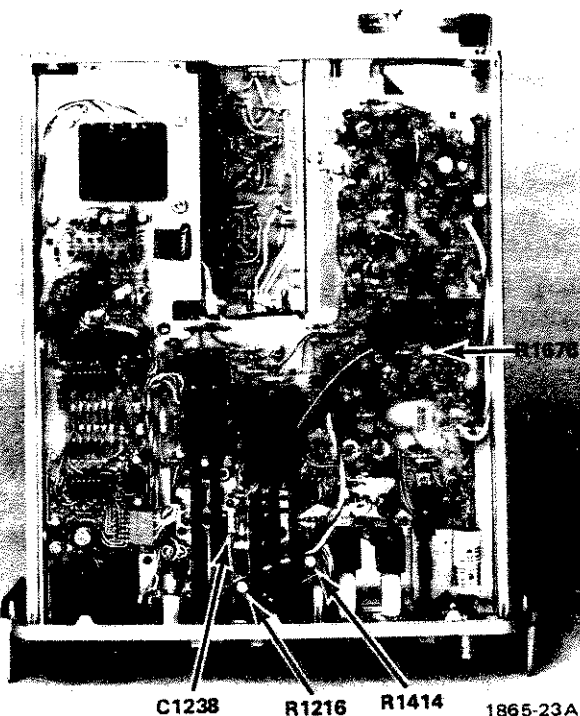

Fig. 4-5. Fast Ramp test point.
a. Connect the test oscilloscope test probe to the front lead of C1238 (see Fig. 4-5).
c. ADJUST—R1676 (RAMP PEAK) for a peak-to-peak amplitude of 6 V,  $\pm 0.2$  V with the ramp beginning at an approximate  $-2$  V level and ramp ending at an approximate  $+4$  V level (see Fig. 4-5).
g. ADJUST—R1216 (FT/DIV CAL) for eight time marks in 7.9 divisions (see Fig. 4-5).
e. ADJUST—R1414 DIST CAL to position the leading edge of the pulse on the second graticule line (see Fig. 4-5). Check that the pulse is at the same point on the graticule when the ZERO REF CHECK button is pressed.